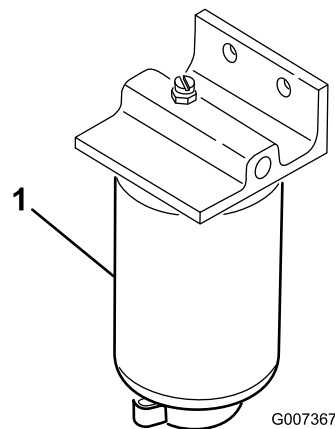

Figure 46
1. Place a clean container under the fuel filter (Figure 46).
2. Clean the area where the filter-canister mounts (Figure 46).